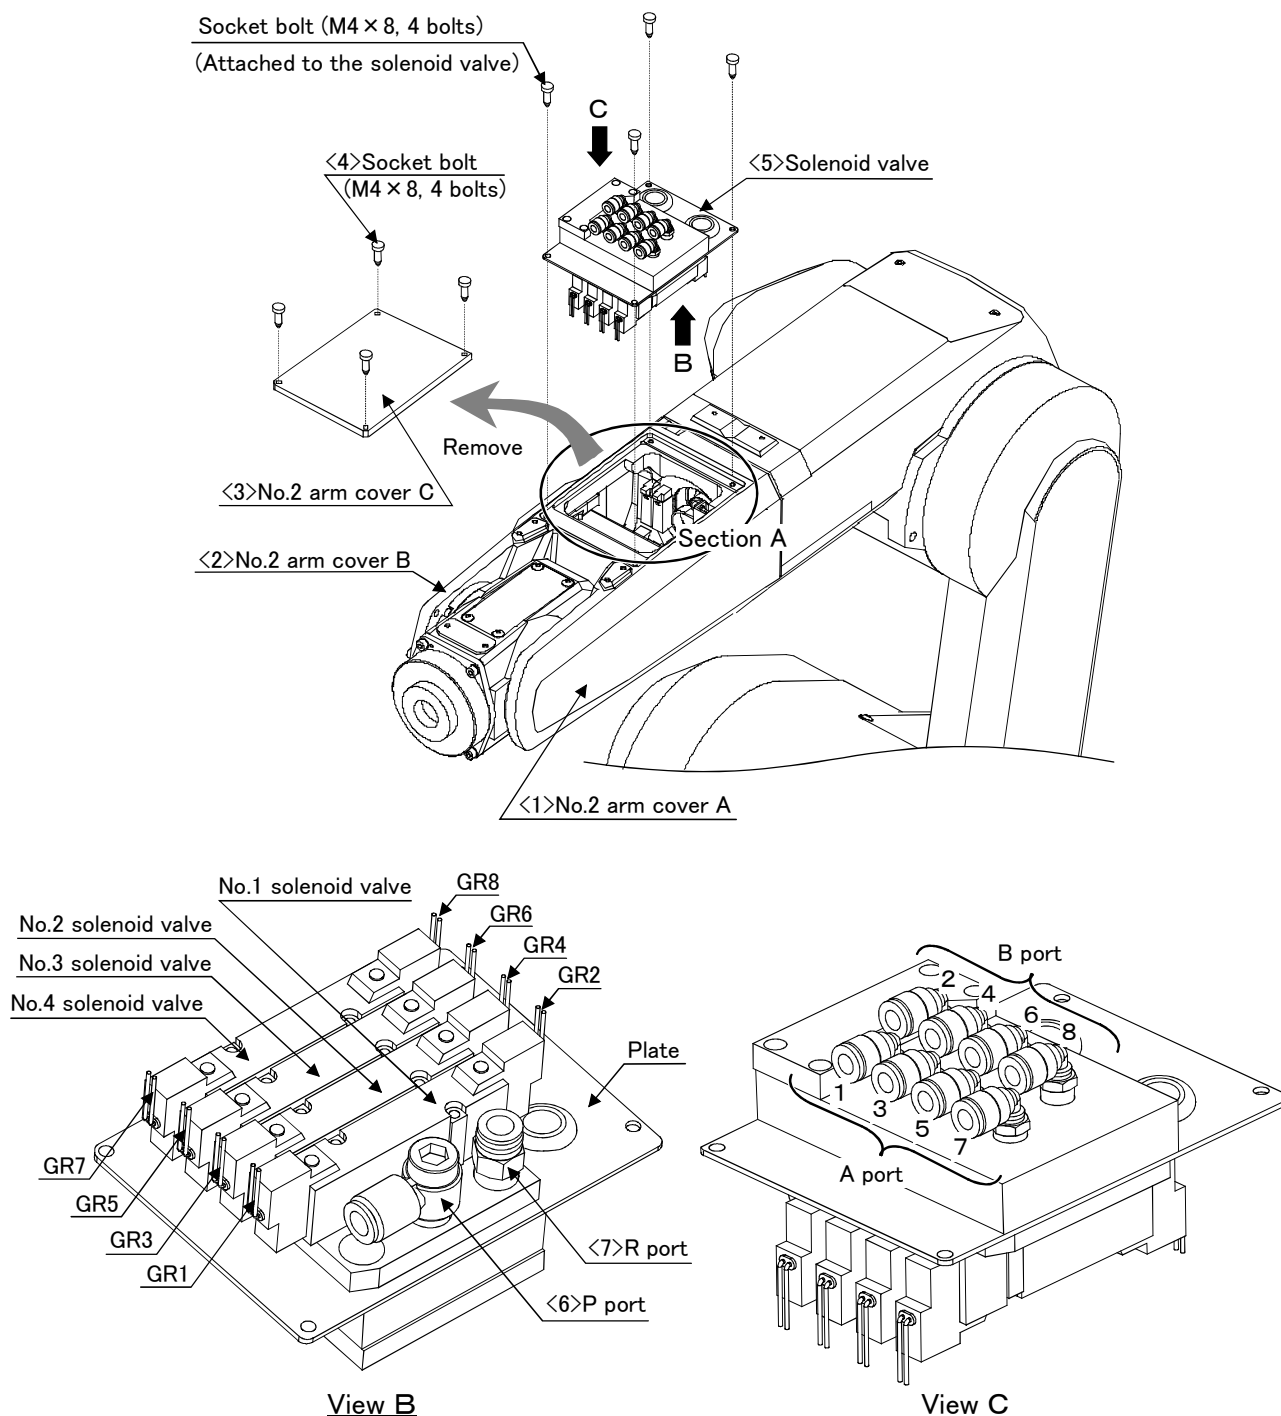
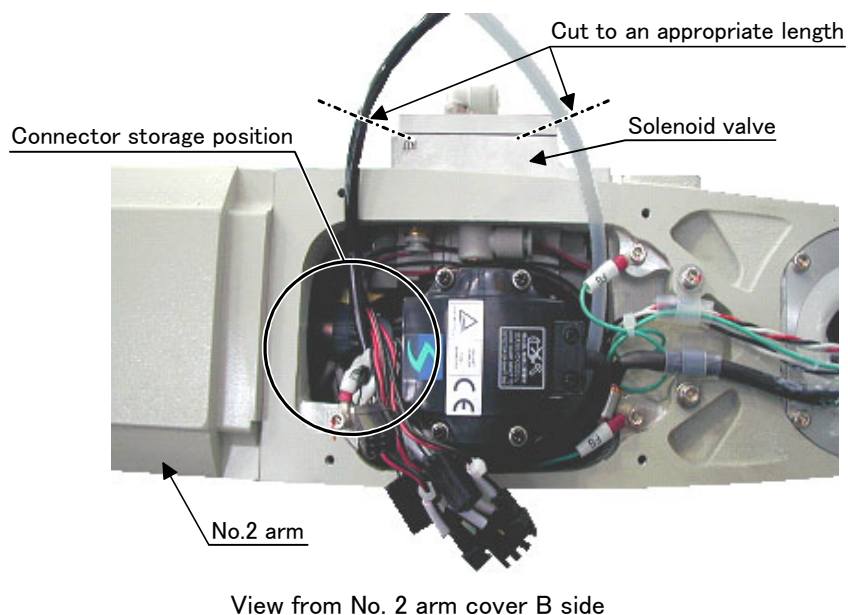
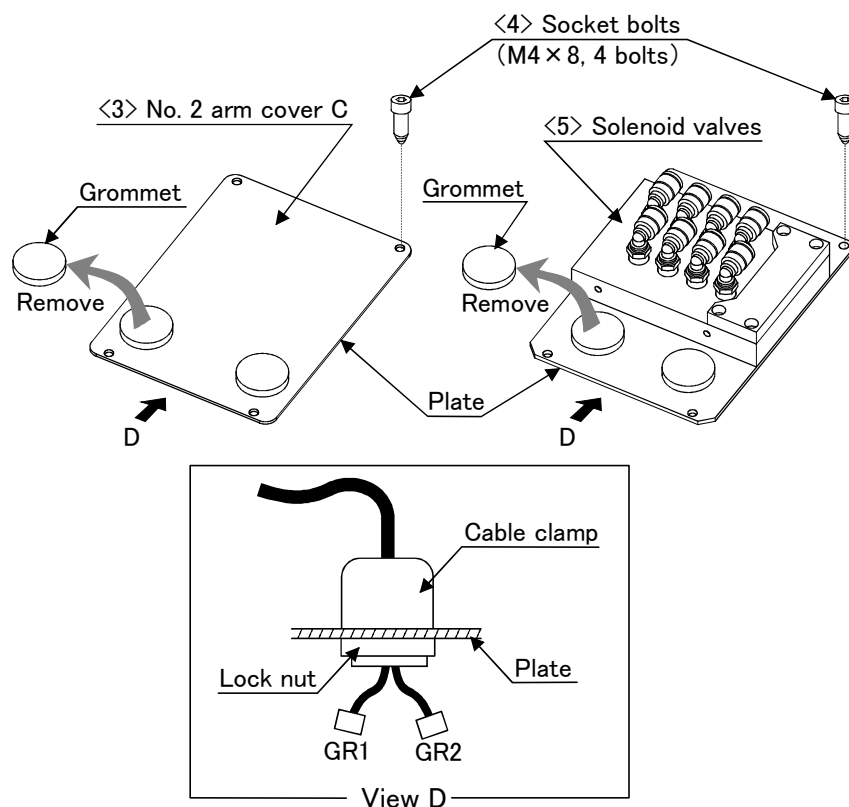

Fig.3-1 : Solenoid valve installation procedures
Fig.3-2 : Solenoid valve installation diagram details 1
Fig.3-5 : Installing the hand output cable
Fig. 3-1 and Fig. 3-2 shows the solenoid valve installation procedures and the solenoid valve connector connection procedures. The installation procedures are as follow. This work must be carried out with the controller power turned OFF.
- 3) If you are not using the spare line (ADD: stored in a coil) in section A shown in Fig. 3-1, remove it. The spare line is connected to a connector inside section A.
- 7) Connect the connectors of GR1 to GR4 stored in section A to the plugs of GR1 to GR4 coming out of the solenoid valves. Store the connectors near the location marked with O shown in Fig. 3-2. Fig. 3-2 shows a view when stored.
The procedure for installing the hand input cable is as follows. Conduct work by referring to “Fig. 3-1 Solenoid valve installation procedures” on page 31 and “Fig. 3-4Installing the hand input cable” on page 34 below. This work must be carried out with the controller power turned OFF.
- 7) Connect the connectors of “HC1” and “HC2” stored in section A shown in Fig. 3-1 to “HC1” and “HC2” of the hand input cable.
- 8) Mount the No. 2 arm cover C <3> or the solenoid valves <5> to section A shown in Fig. 3-1. When mounting, be careful not to damage the sponge sealing material attached to the opening of section A.
The procedure for installing the hand output cable is as follows. Conduct work by referring to "Fig. 3-1 Solenoid valve installation procedures" on page 31 and "Fig. 3-5 Installing the hand output cable" on page 35 below.
- 7) Connect the connectors of "GR1" and "GR2" stored in section A shown in Fig. 3-1 to "GR1" and "GR2" of the hand output cable.